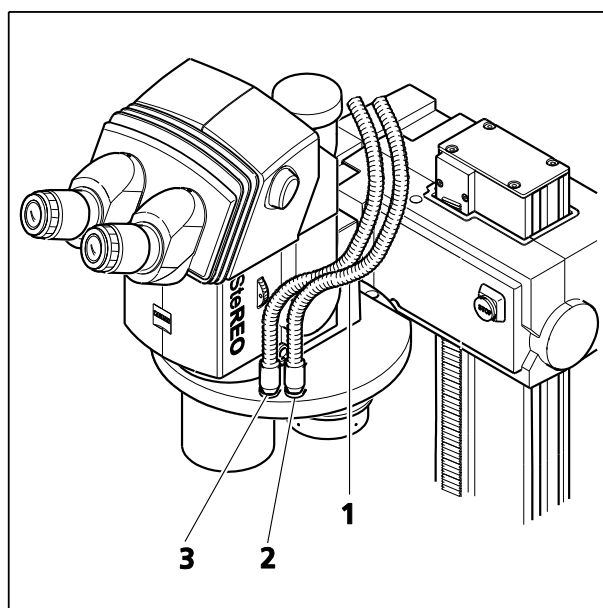

Fig. 24 Light guide mount
- If you use the flexible one-branch light guide, it must be re-positioned when changing from the stereo position (Fig. 24/3) to the macroscope position (Fig. 24/2).
- This is not necessary if you use the flexible two-branch light guide (Fig. 24/1).